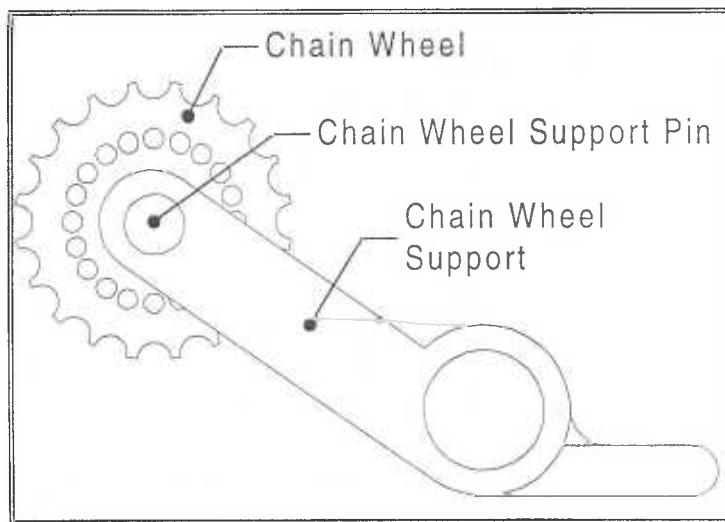

Figure 1 Chain wheel and chain wheel support
13. Hold the chain wheel with one hand and pull the old tensioner out. While you slide the tensioner out, hold the chain wheel support (Figure 1) with your other hand to keep tension on the chain.